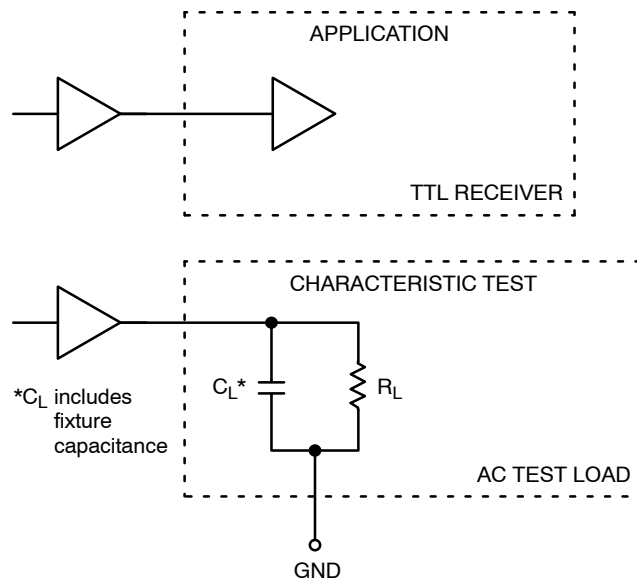

Figure 3. TTL Output Loading Used for Device Evaluation
5. Measured with a 750 mV 50% duty-cycle clock source.  $R_L = 500\ \Omega$  to GND and  $C_L = 20\text{ pF}$  to GND. Refer to Figure 3.